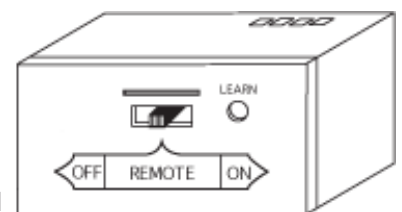

Fig. 16. Learning
- Slide the 3-position button on the remote receiver to the **ON** position (Fig. 16). The main gas flame (fire) should light.